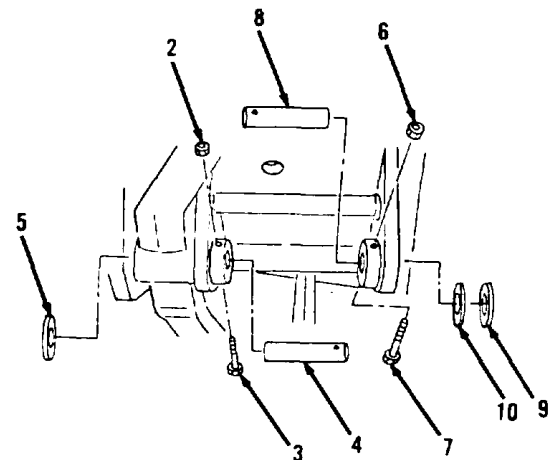

Figure 5-69.
4. Remove nut (2), bolt (3), pin (4) and washer (5, Figure 5-69).
5. Remove nut (6), bolt (7), pin (8) and washers (9 and 10).